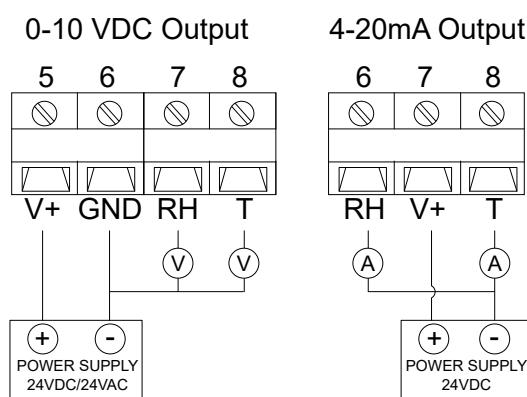

Figure 4 AcuHUM RM Wiring Diagram, RH and Analog Temperature Output
**NOTE:** If using 4-20mA output for RH/temperature signal, the sensor must be powered with an 18.5~35VDC ( $RL=500\Omega$ ) power supply. Ensure that the analog input common reference of the BAS controller, PLC, and Automation Panel is connected to the DC power supply common reference to complete the circuit. The sensor will not work if the common references are not connected. Refer to Figure 4 below.